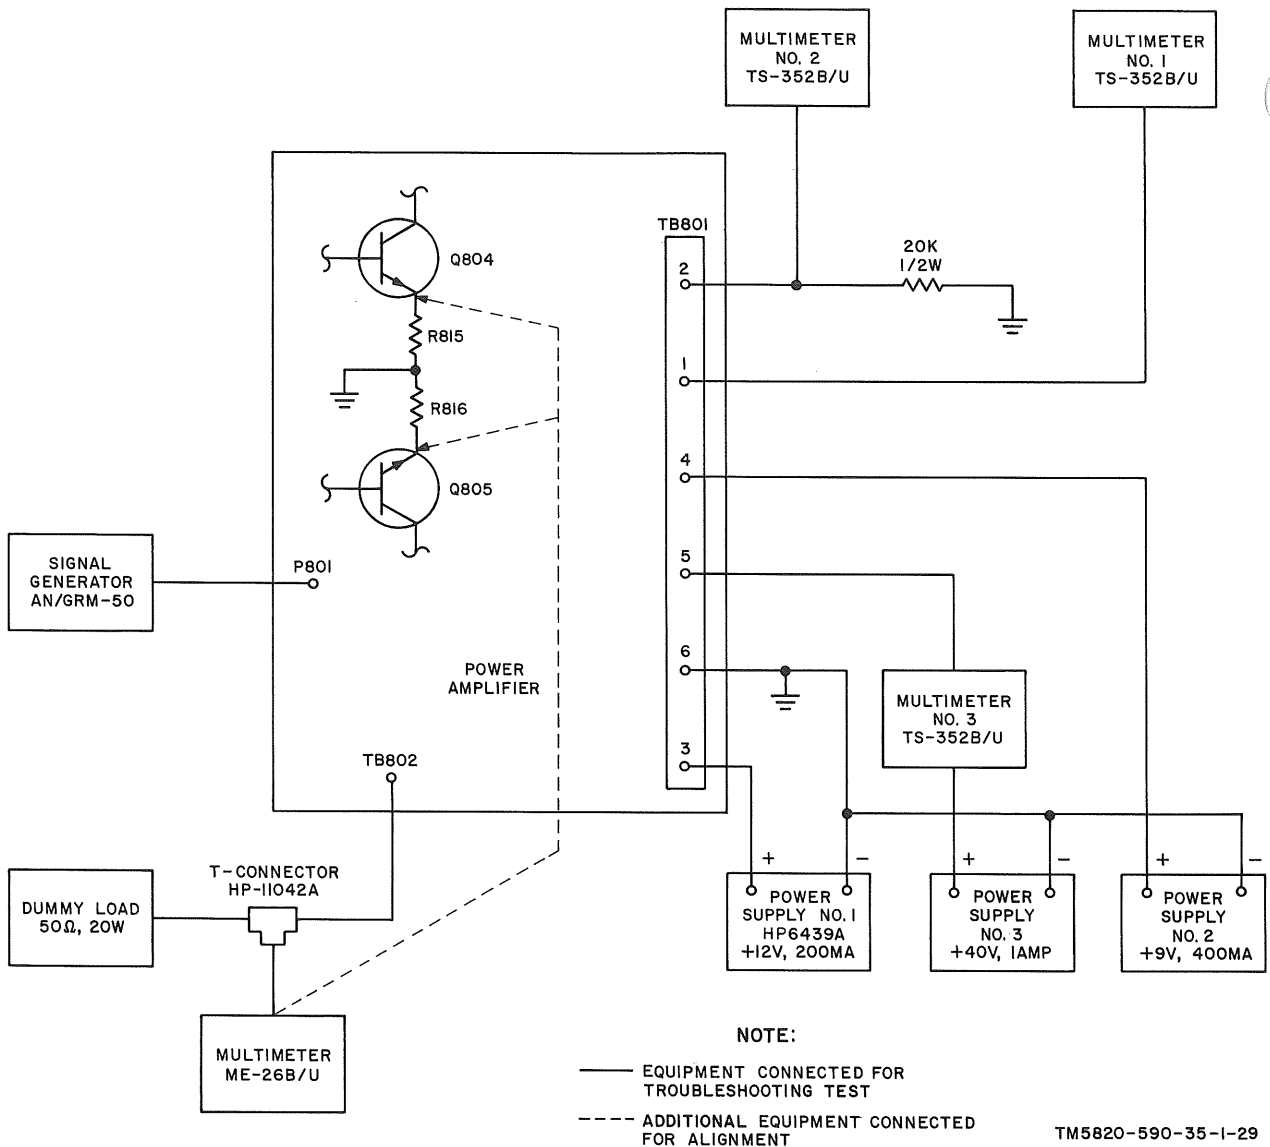

Figure 4.1-1. Power amplifier module, test setup.
- (1) Resistor, 50-ohm, 20-watt.
- (2) Hewlett-Packard TEE Connector No. 11042A (T-connector).
a. Connect the test equipment to the power amplifier module as shown in figure 4.1-1.
i. Adjust the AN/GRM-50 output for an indication of 24.5 volts ac on Multimeter ME-26B/U (fig. 4.1-1).
h. Solder wire connections on driver board (3).
i. Position driver board (3) and driver shield (2) on preamplifier chassis (11), and secure with four screws (1).